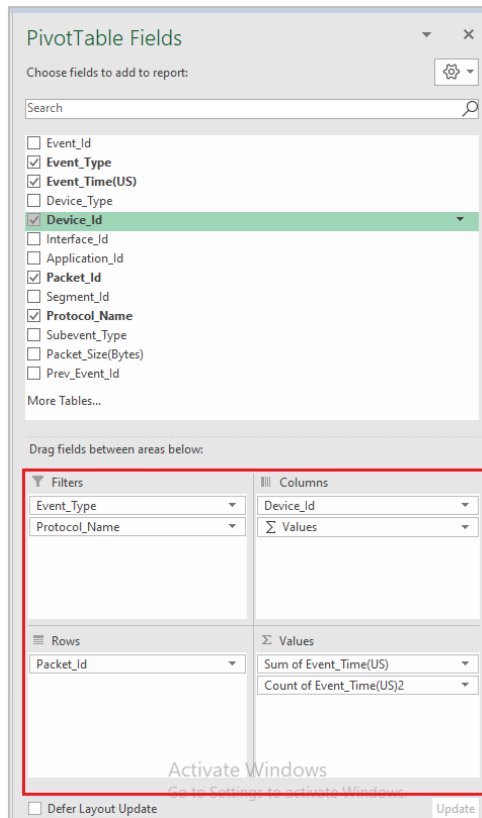

Figure 8-75: Selected Fields to one of the four areas Field list
5. Then finally the **Pivot Table Fields** will be as shown below Figure 8-75.